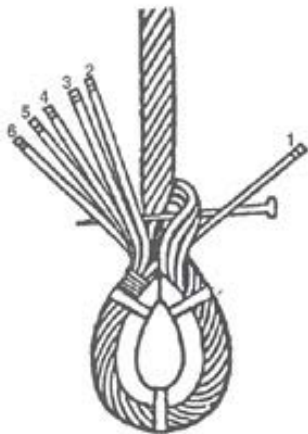

Figure 1
The start of the splice is made as illustrated in *Figures 1 through 6* . *Figure 7* shows the appearance of the splice after the initial start. The first three strands are then given one additional spiral tuck each as shown on *Figure 8* . The next step, as shown on *Figure 9*, is to tuck each strand over one and under two against the lay of the rope until eight (8) tucks have been made.